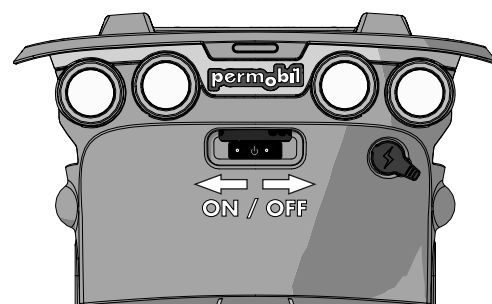

Figure 469. Main circuit breaker.
21. Switch the main circuit breaker to On; see fig. 469.